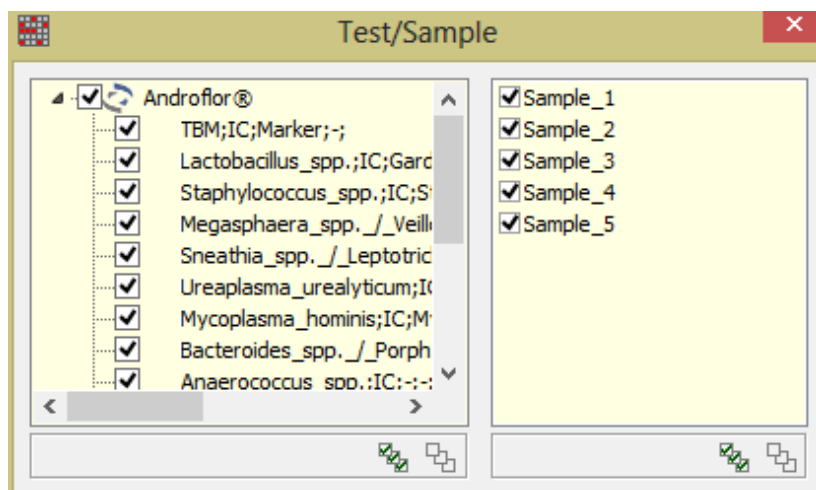

Fig.72 The display of test tubes in a Test/Sample
- display of tubes in the Test/Sample mode (Fig.72).